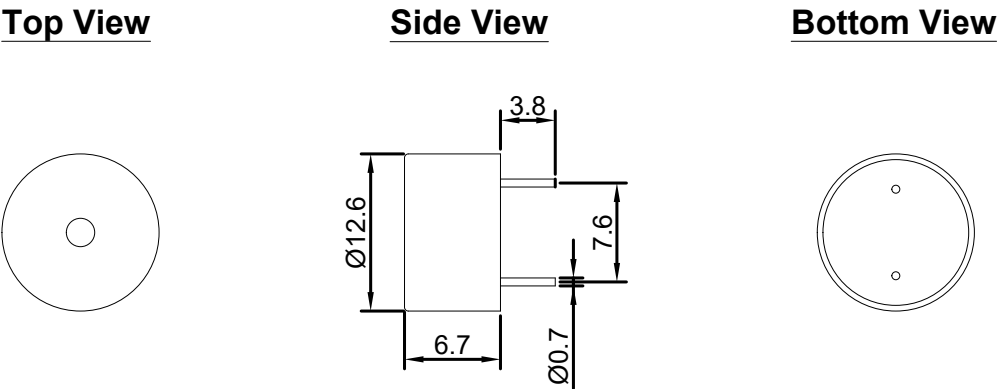

Figure 3. HPA13H Mechanical Layout
4.3.1. Layout and Dimension	: See Section 6, Figure 3